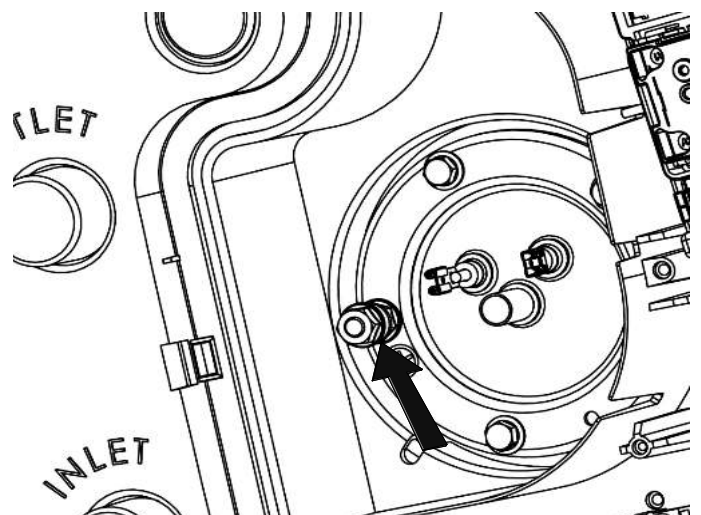

Figure 12: Earth post location
- ▶ Using an appropriate 'tested' ESD wrist strap with a crocodile clip at the opposite end of the lead to the wrist strap, connect the crocodile clip onto the earth point on the immersion heater (see Figure 12, page 26).